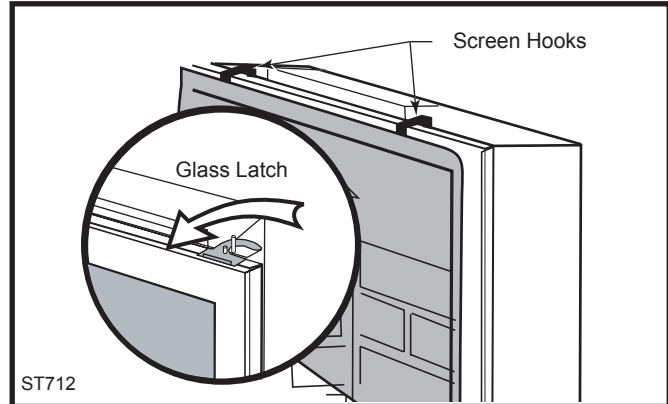

Fig. 23 Remove the screen or glass panel.
3. Remove the screen by lifting up and away from the unit. Or, if so equipped, remove the glass panel by rotating the two cams toward the front of the firebox. Lift the panel up and off of the firebox frame. (Fig. 23)